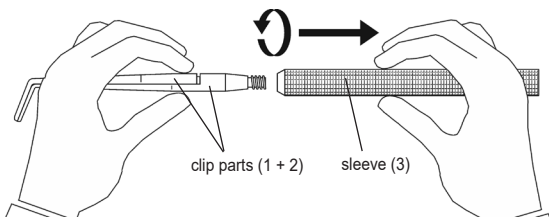

Fig. 3
- Hold both clip parts (1) and (2) and unscrew the sleeve carefully (fig. 3).